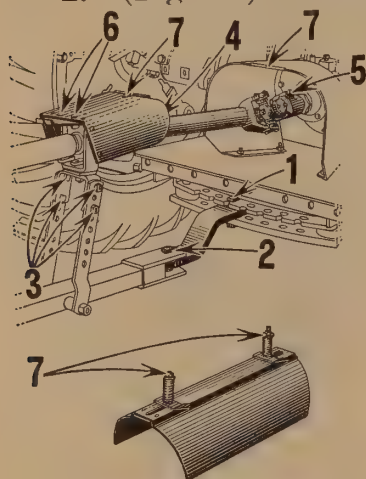

Fig. 39
1. (Fig. 39.) Remove swinging drawbar and replace with new extension drawbar furnished. Bolt securely as shown.
2. (Fig. 39.) Connect Binder to extension drawbar.
3. (Fig. 39.) Adjust height of power shaft front bearing to level power line as shown.
4. (Fig. 39.) Remove tape around key in front end of telescoping pipe for power drive. Remove cap screw, lugged lock washer and notched retaining washer from front end of telescoping pipe. Slide rear universal joint onto front end of telescoping pipe and replace notched retaining washer, lugged lock washer and cap screw. Be sure to fit bent lug on lock washer into notch in retaining washer and to bend remaining lugs on lock washer over head of cap screw.
5. (Fig. 39.) Slide front splined universal joint onto take-off shaft on tractor and secure in place with clamp bolt and cotter.
6. (Fig. 39.) Bolt power shaft shield to **rear** set of holes in power shaft front bearing housing.
7. (Fig. 39.) Attach universal joint and pipe connection shield to take-off shaft shield on tractor and to shield on power shaft front bearing as shown.